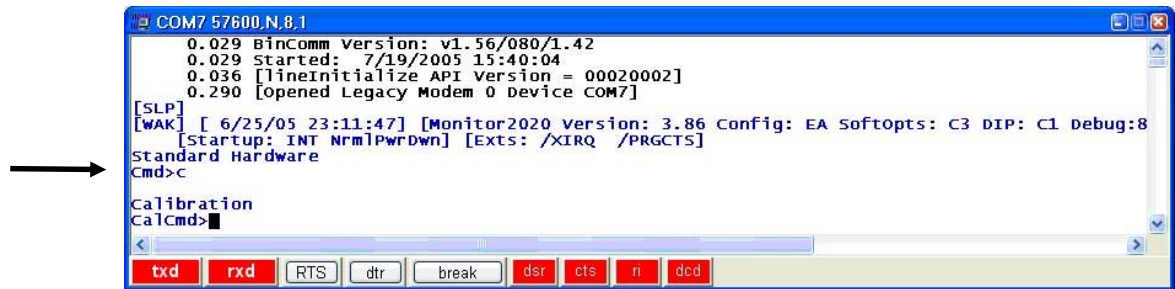

Fig. 10.2: Enter Calibration Mode
10.2.4 On the floating terminal screen, assert **rts** (Alt-R or click on “rts”). This awakens the Monitor from sleep mode. (Fig. 10.2). The
10.2.5 Type a **c** at the **Cmd>** prompt (**Cmd>c**) to enter the **Calibration** Mode. Fig. 10.2